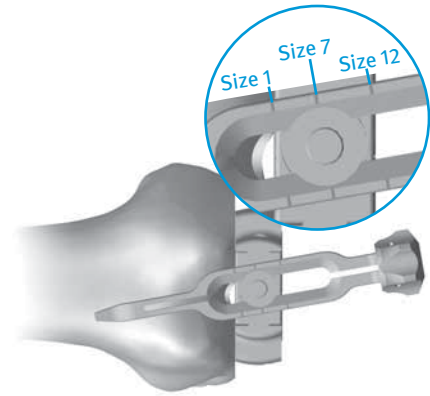

Fig. 39a
- Slightly extend the knee and retract soft tissues to expose the anterior femoral cortex. Clear any soft tissue from the anterior cortex. Ensure that the leg is in less than 90° of flexion (70°-80°). This will decrease the tension of the patellar tendon to facilitate placement of the sizing boom. The sizing boom telescopes proximally/distally to facilitate optimal placement along the anterior cortex. The engraved lines along the top of the boom approximate the anterior flange lengths of the size 1, 7, and 12 femoral components (Fig. 39a). Once the sizing boom is appropriately positioned, it should be locked in place by tightening the knob at the end of the boom clockwise (Fig. 39b).